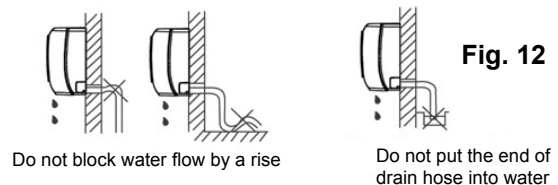

Fig. 12
- A. Run the drain hose sloping downward. Do not install the drain hose as illustrated in Fig.12.